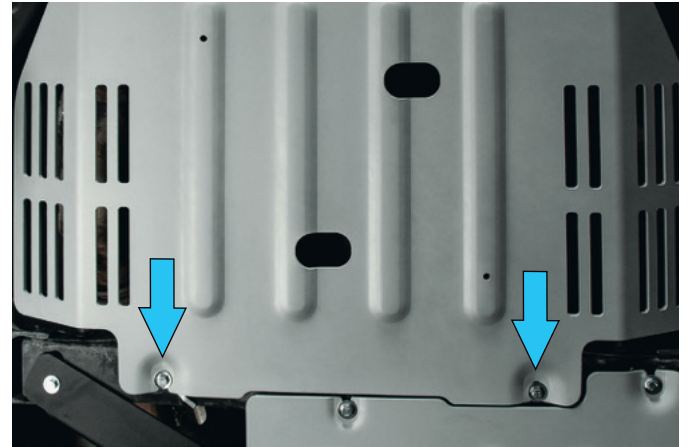

Fig. 13
13. Put the gearbox skid plate (item 1) on installed bolts M8x25 and washers 8 from step 11 as shown in fig.13.